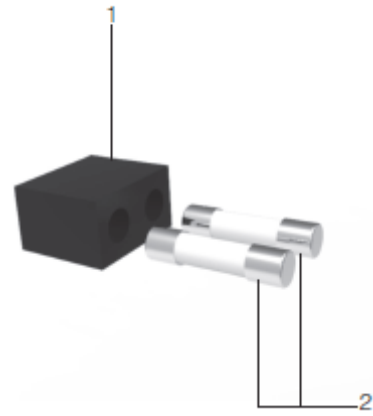

FIG. 2
- D. Replace the fuses (2) by the new ones and put the fuse box back (1) in place. (FIG. 2)